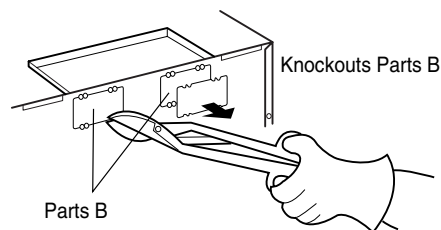

Figure 15
3. Use side cutters or tin snips to cut and remove knockouts B from Back plate. Discard knockouts. Be careful not to distort the plate. See Figure 15.